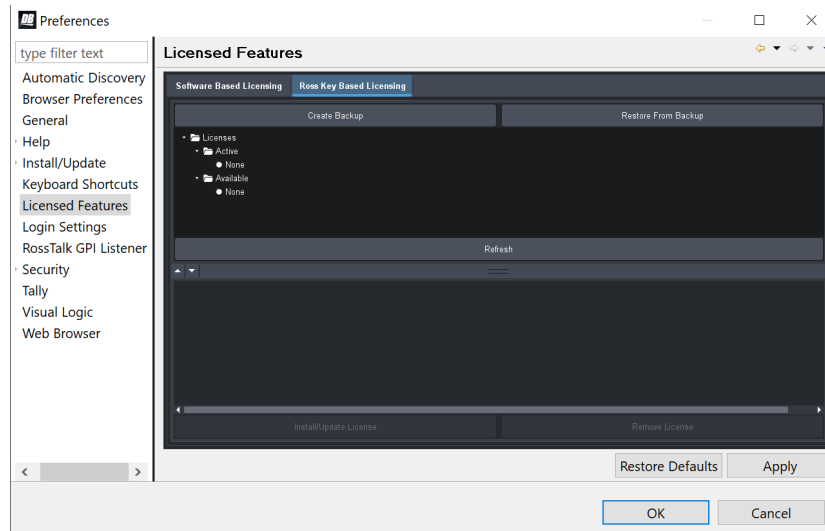

Figure 3 - DashBoard Licensed Features - Ross Key Based Licensing tab
- a. From the main toolbar, select **Window > Preferences**. Refer to Figure 3.